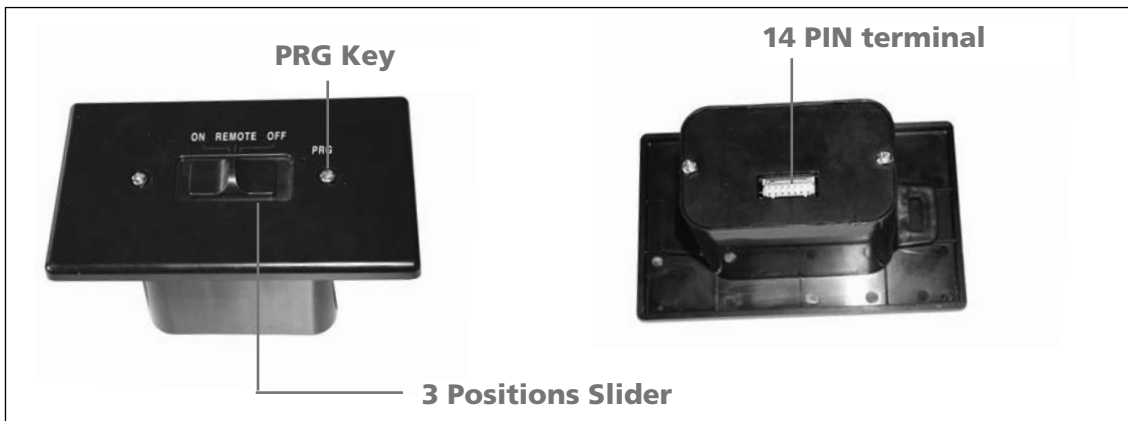

Fig. 3: Proflame Receiver body.
The Proflame Receiver (Fig. 3) connects directly to the gas valve and stepper motor and Fan Control Module with a wiring harness. The Receiver is powered by 4 AA type batteries. The Receiver accepts commands via radio frequency from the Transmitter to operate the appliance in accordance with with the particular Proflame system configuration. The Receiver three position slider switch can be set to one of three positions: ON (Manual Override), Remote (Remote control) or Off.
Install the 4 AA batteries into the receiver battery bay. Note the polarity of the battery and insert into the battery bay as indicated on the Battery cover (+/-). Place the 3 position slider switch in the "Remote" position. (fig. 3) Using the end of a paper clip, or other similar object, insert the end of the paper clip into the hole marked "PRG" on the Receiver front cover (fig 3). The Receiver will "beep" three (3) times to indicate that it is ready to synchronize with a Transmitter. Install the 3 AAA type batteries in the Transmitter battery bay, located on the base of the Transmitter. With the batteries already installed in the Transmitter, push the On button. The Receiver will "beep" four times to indicate the Transmitter's command is accepted and sets to the particular code of that Transmitter. The system is now initialized.